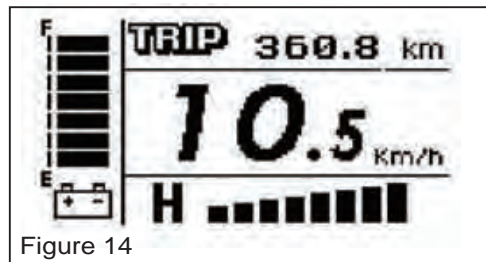

Figure 14
**[TRIP] Trip mode (Figure 14) :**